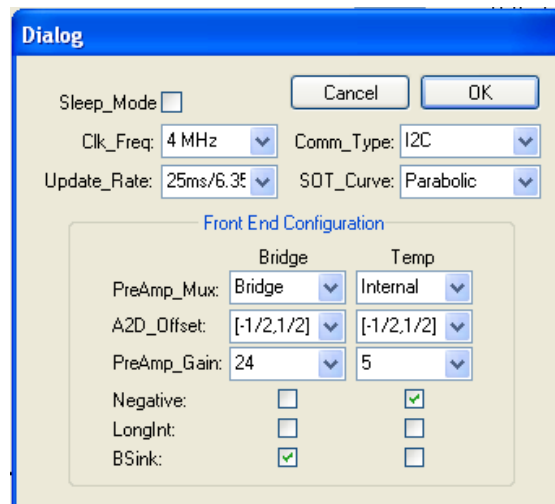

Figure 5.2 – Initialization Dialog Window with Default Values (Calibration with Artificial Bridge)
- 8.) Click on the “Initialize” button, and click “OK” to keep the default settings for the dialog box (Figure 5.2). A unique identifier is assigned to this RBiCiLite™ and is written to its EEPROM